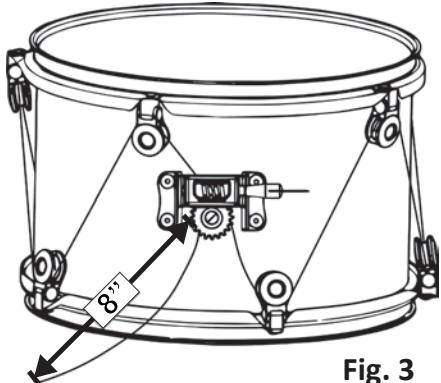

Fig. 3
- 6.** Drape the cable over the winding post to ensure that you have approximately 8" of cable remaining to wrap around the winding post (**Fig. 3**). If the cable is not long enough, replace it with a new cable.